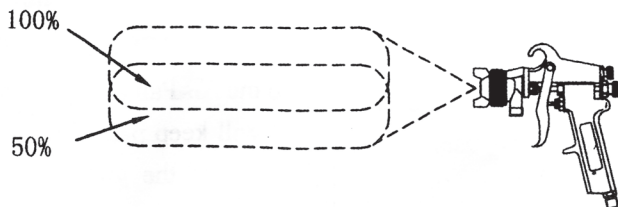

Figure 7—Overlapping strokes
- Overlap each stroke by about 50%. (See Figure 7)